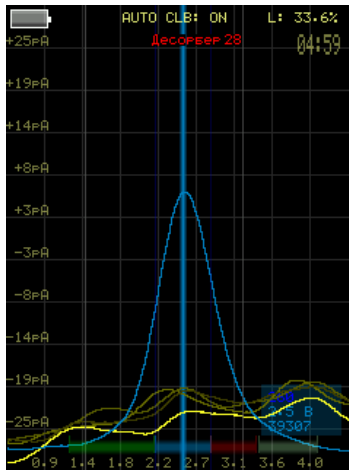

Figure 25. Countdown time of piezo desorber chamber.
- turn on the piezo desorber by pressing on F_n button for entering device menu; press F_n again to startup piezo desorber (Figure 25);